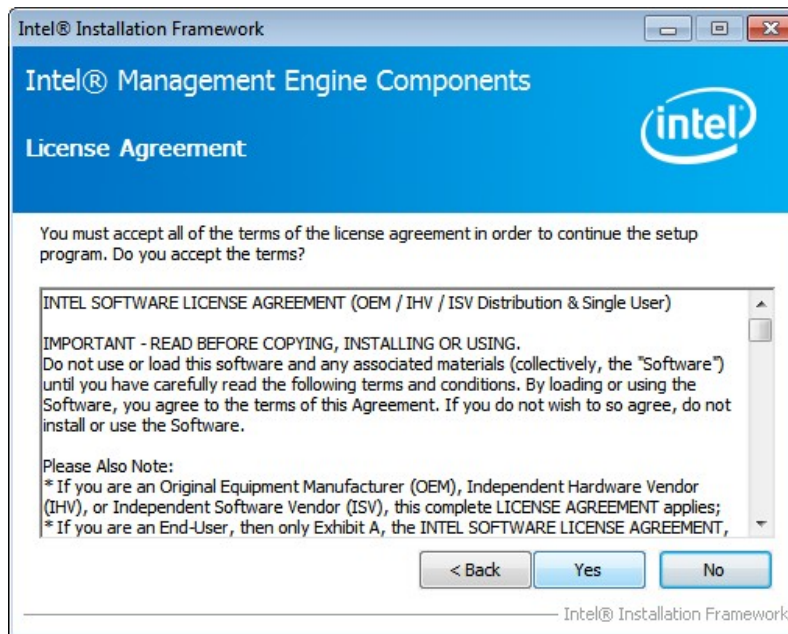

Figure 6-29: Intel® ME Driver License Agreement
Step 6: The license agreement in **Figure 6-29** appears.